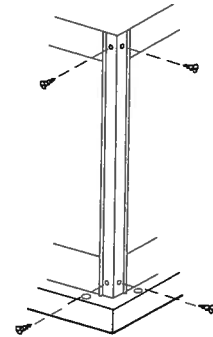

Figure 52
Step 3. Remove the four (4) screws in the shipping post as illustrated in Figure 52.